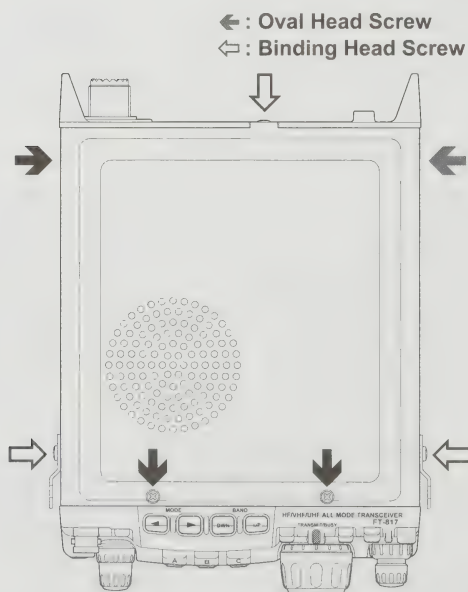

Figure 1
2. Referring to Figure 1, remove the shoulder belt bracket and its two screws from both side of the transceiver, then remove the five screws affixing the top case of the transceiver, and remove the top case; disconnect the speaker's connector when you remove the top case.